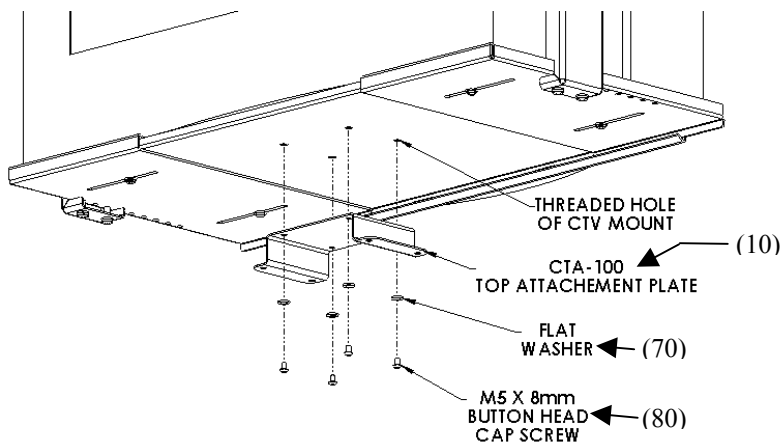

Figure 6. Install Top Attachment Plate
2. Install four flat washers (70), four M5 X 8mm button head cap screws (60), and the top attachment plate (10) onto the bottom of the TV/Monitor mount as shown in Figure 6. Tighten the screws.
1. Align CTA-100 with top attachment plate (10) as shown in Figure 6.